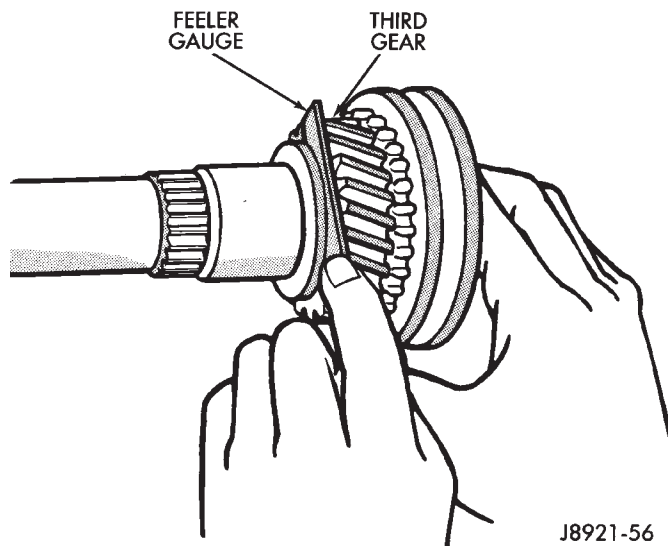

Fig. 110 Check Third Gear Clearance
(9) Install snap-ring to hold 3-4 synchronizer onto output shaft.
(10) Verify third gear thrust clearance with feeler gauge (Fig. 110). Clearance should be 0.10 – 0.25 mm (0.004 – 0.010 in.). If clearance is out of specification, refer to Cleaning and Inspection section within this group.
(11) Install second gear needle bearing onto output shaft.